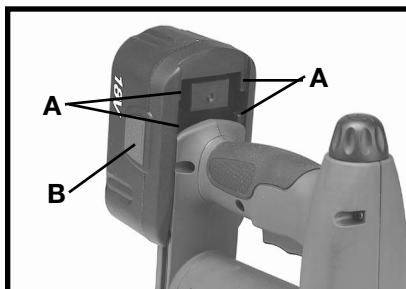

Fig. 4
TO INSTALL BATTERY PACK: Align rails (A) Fig. 4, on battery pack with slots on tool and push battery pack onto tool until it locks in place.
TO REMOVE BATTERY PACK: Depress the battery release button (B) Fig. 4, and pull battery pack out of tool.